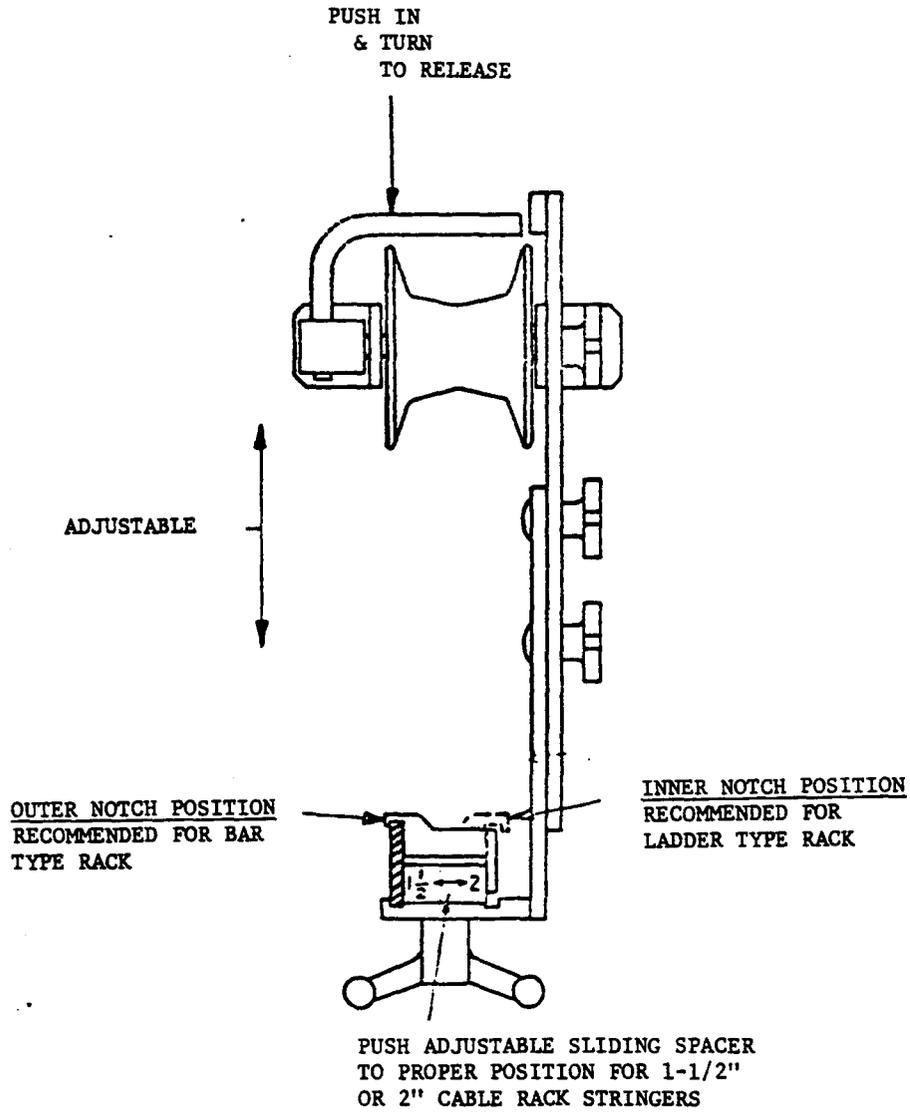

FIG. 21 HORIZONTAL ASSEMBLY R-4321
3.631 When mounting the guides on 1-1/2" cable rack stringers, the sliding adjustable spacer should be pulled in the direction away from the stringer. For mounting on 2" cable rack stringers, the sliding spacer should be pushed toward the stringer. The markings on the spacer indicate the direction of travel for 2" and 1-1/2" stringers (see FIG. 21).
3.632 The bracket can then be mounted on the cable rack stringer in either the inner or outer notch position by lifting the sliding spacer slightly and rotating 180 degrees (see FIG. 21). Place the notches in the bracket over the top and bottom of the stringer and tighten the adjusting handle.
3.637 Use the guide cable retainer to hold the cable from slipping out of the sheave. The retainer can be released by pushing in toward the sheave and rotated 90 degrees (see FIG. 21).